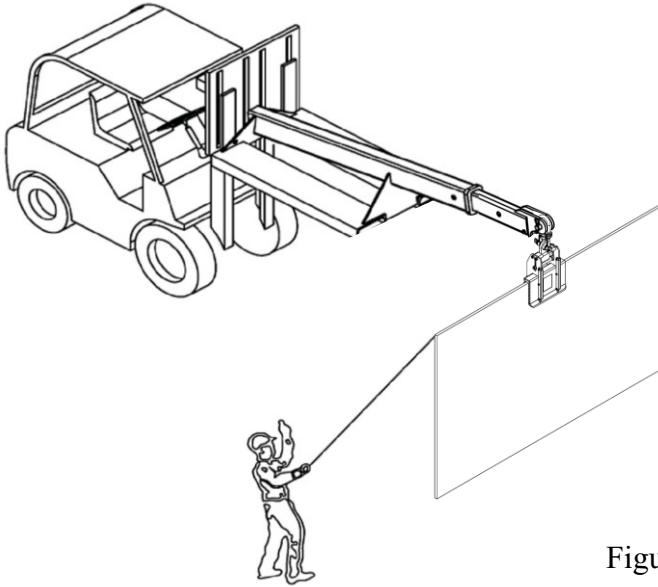

Figure 4.1
**Step 4:** Move the material slab to the desired location (Figure 4.1).